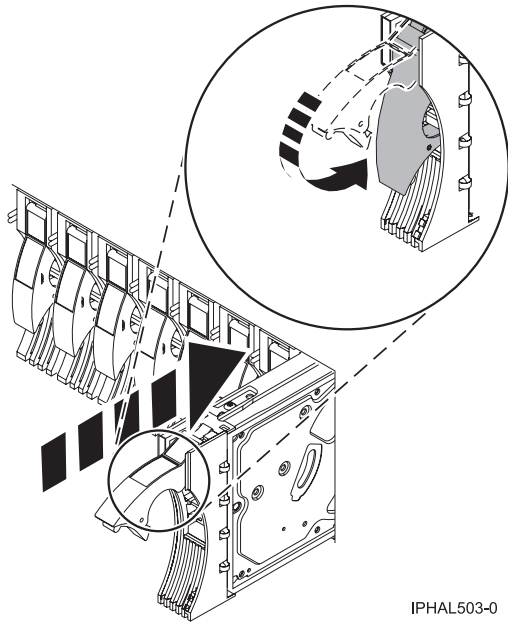

Figure 37. Installing a disk drive
8. Unlock the disk drive handle by squeezing and pulling it out toward you before you install the disk drive. If the handle is not all the way out, the disk drive cannot slide into the system or expansion unit. See Figure 37 on page 49.